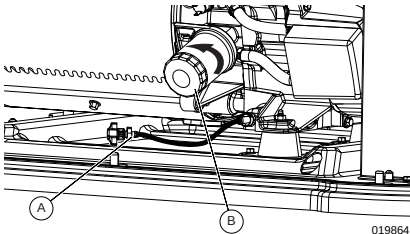

Figure 4-1. Oil Filter and Drain Location (22–28 kW)
5. See Figure 4-1. Remove front panel when unit has cooled. Pull oil drain hose (A) free of retaining clip. Remove cap from oil drain hose and place free end into a suitable container. Drain oil.